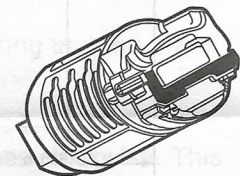

FIGURE 6
5. Assemble actuator retainer (H) to the cylinder (D) to clip over the actuator (G). The leg of the actuator retainer clip (H) must fit into groove on the cylinder (D) head (refer to figure 6).
6. Insert one tumbler spring (C) into each of the holes located at the end of the tumbler slots on the lock cylinder (D).